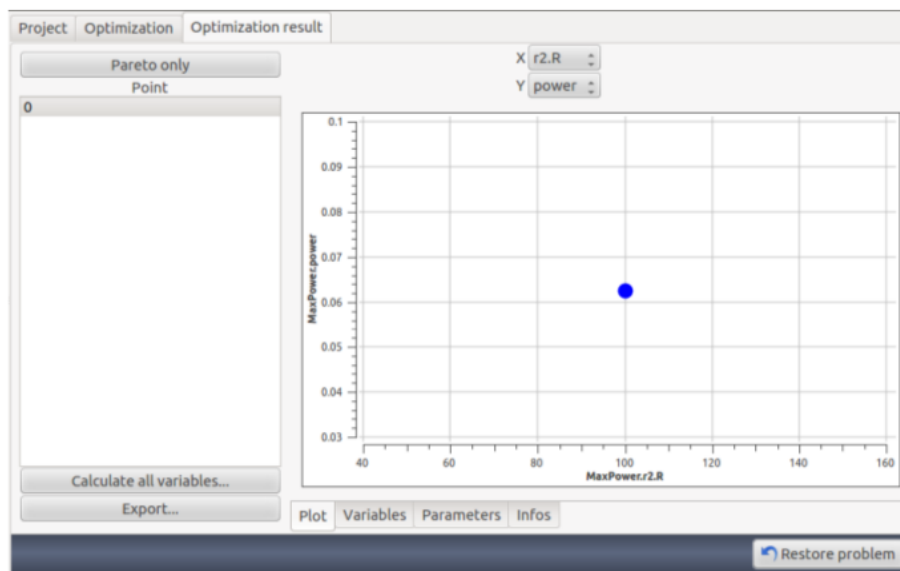

Figure 12.11: Optimised value of resistance for maximum power
- Depending on the type of algorithm, the time for optimisation varies. Optimised result is graphically displayed as shown in Fig. 12.11.